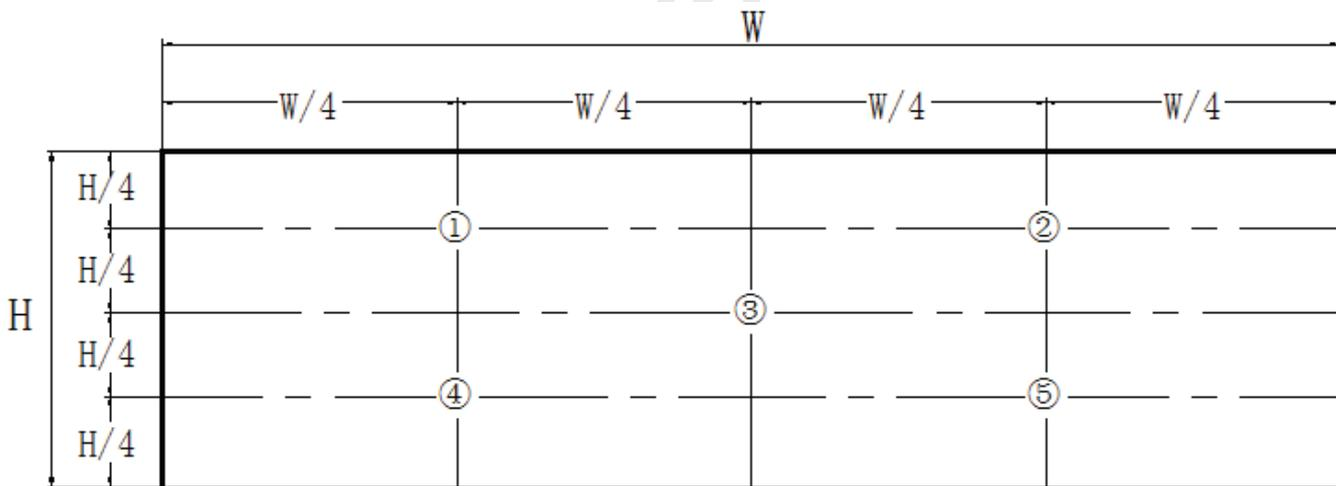

Figure 8. White Luminance and Uniformity Measurement Locations (5 points)
- Center Luminance of white is defined as luminance values of 5 point average across the LCD surface. Luminance shall be measured with all pixels in the view field set first to white. This measurement shall be taken at the locations shown in Figure 8 for a total of the measurements per display.
- The White luminance uniformity on LCD surface is then expressed as : $\Delta Y = \text{Minimum Luminance of 5(or 13) points} / \text{Maximum Luminance of 5(or 13) points.}$ (see Figure 8 and Figure 9).
The White luminance uniformity on LCD surface is then expressed as : $\Delta Y5 = \text{Minimum Luminance of five points} / \text{Maximum Luminance of five points}$ (see Figure 8) , $\Delta Y13 = \text{Minimum Luminance of 13 points} / \text{Maximum Luminance of 13 points}$ (see Figure 9).